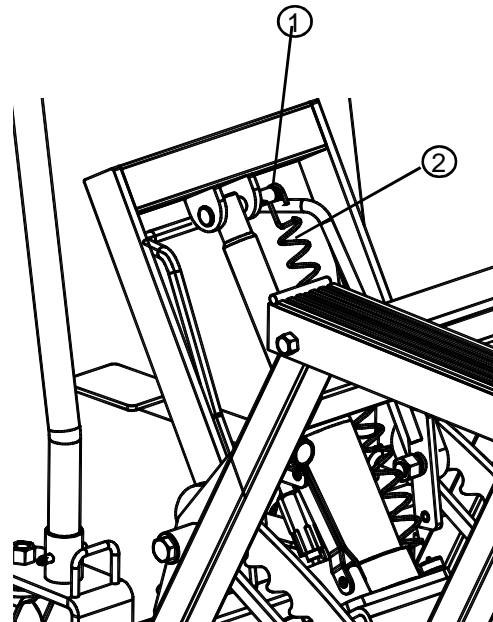

Figure 2 - Illustration for Assembly (step 2 and 3)
(refer to figure 2 and 3)
2. Insert pin (#1 on figure 2) to connect hydraulic unit to lift arm with slot-in pin to the left as viewed from rear of lift.
3. Install return spring (#2 on figure 2) by slipping one side into slot-in pin, and the other side onto bolt stub at base on hydraulic unit.